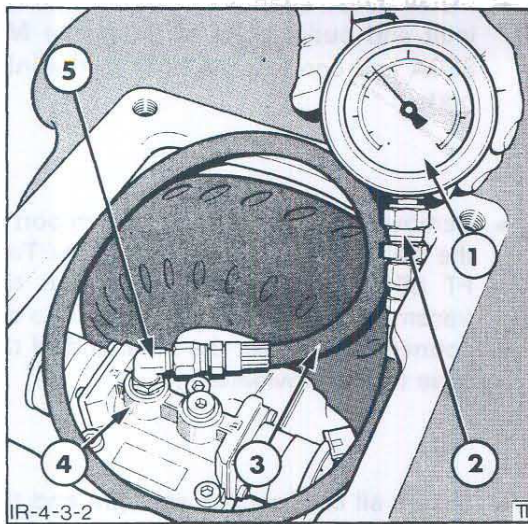

Figure 2
1. Remove the access cover from the top of the transmission. Attach a 0 to 300 lbf/in² pressure gauge to the reverse test port on the control valve, Figure 2.